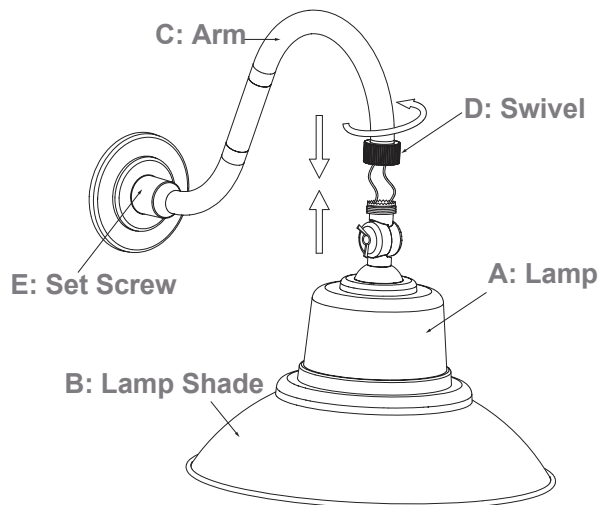

Figure 1
1. Connect Arm (C) and Lamp (A) through Swivel (D) and rotate Swivel to fasten two parts. The Arm (C) needs to be in the 90 degree direction compared with the Butterfly Bolt. Be careful not to misplace any of the hardware needed for installing the fixture. (Figure 1)